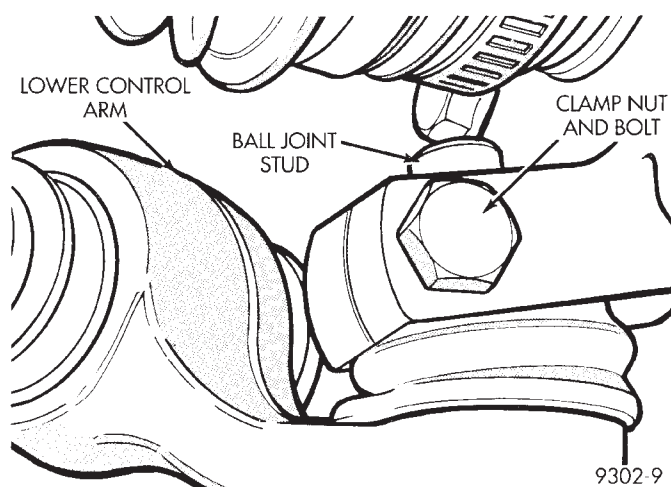

Fig. 7 Control Arm To Steering Knuckle Attachment
(4) Install lower ball joint stud into steering knuckle. Install steering knuckle to lower ball joint stud, clamp bolt and nut into steering knuckle (Fig. 7). Torque clamp bolt to 55 N•m (40 ft. lbs.).